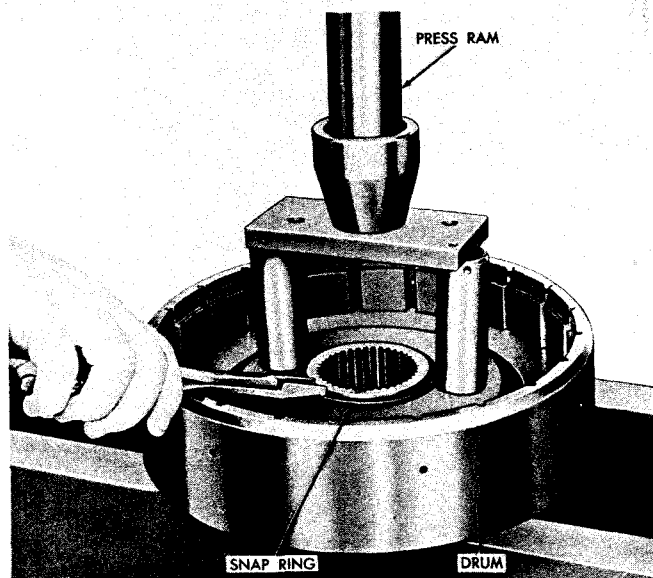

Fig XI-2. Removing or installing snap ring from intermediate-range clutch drum
(1) Use a press to hold down the intermediate-range piston return springs (fig XI-2). Remove the snap ring (fig XI-2).
(4) Using a press, hold down the intermediate-range piston return springs and install the snap ring (fig XI-2).